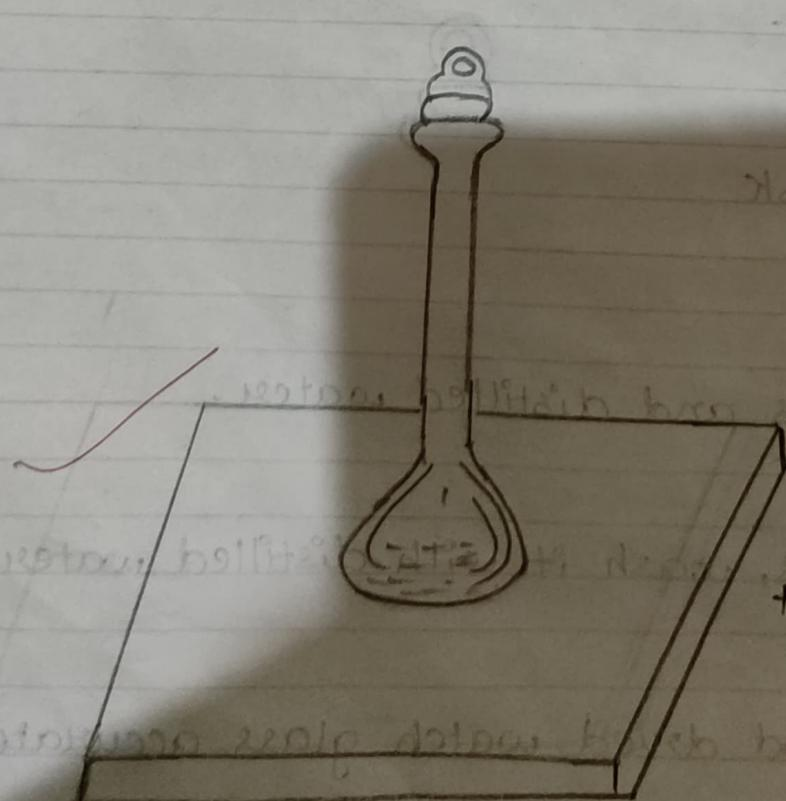

Fig. 11.17. Standard solution of oxalic acid.
- 9) Stopper the measuring flask and shake gently to make the solution uniform throughout. Label it as 0.1M oxalic acid soln. [fig 11.17]